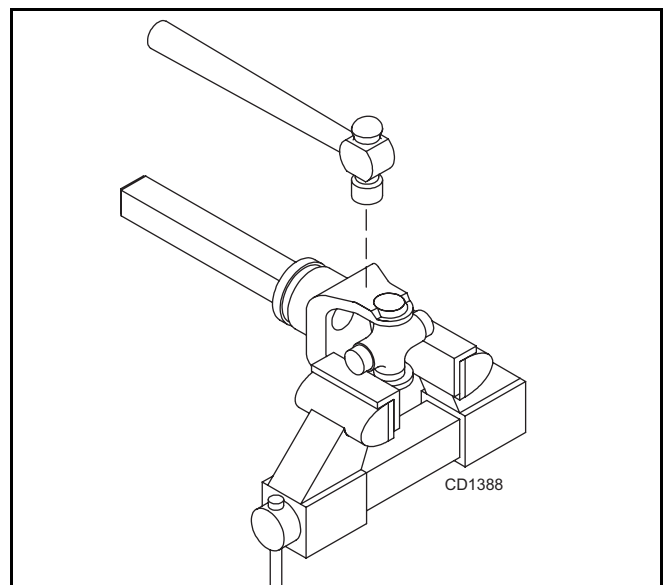

Figure 21
4. Place universal cross in vise as shown in Figure 21 and tap on yoke to remove cup. Repeat Step 3 for final removal. Drive remaining cup out with a drift and hammer.